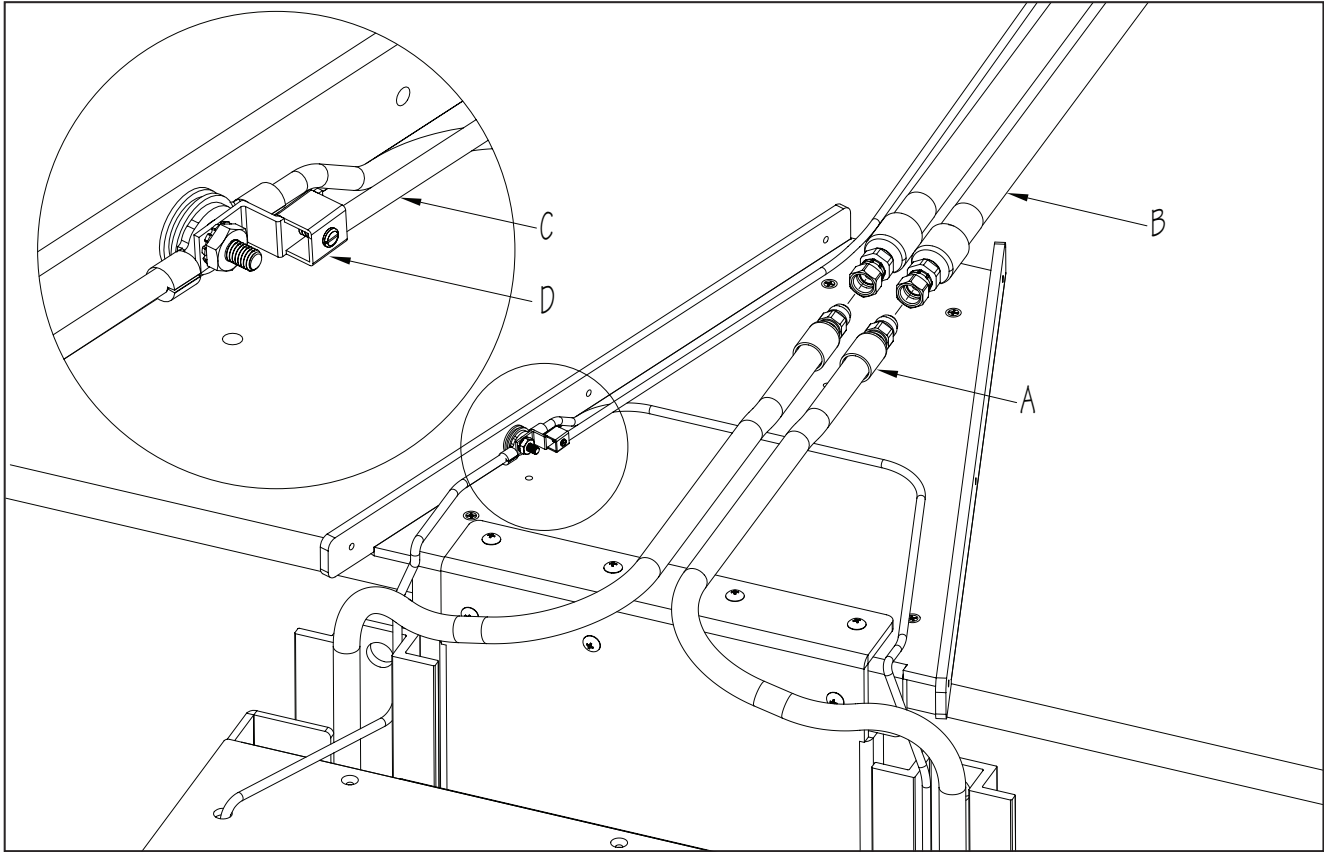

Fig. 22
3. Route the Hydraulic Sub Hoses onto the Deck Plate. There is red tape wrapped around one of the Sub Hoses (A) and one of the Run Hoses (B) representing low-pressure. Attach the Sub Hose with the red tape to the Run Hose with the red tape. Attach the other Sub Hose (high-pressure) to the remaining Run Hose. Attach a #8 Solid Copper Wire (C) to the Bonding Lug (D). This wire MUST be attached to a connection incorporated into the pool's bonding grid (Fig. 22).